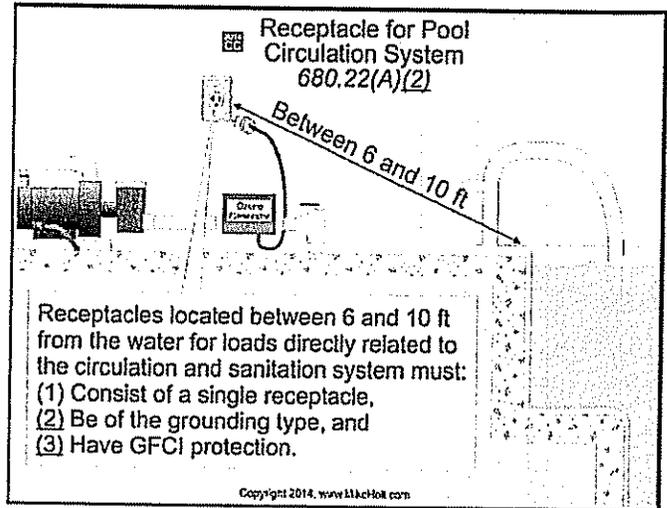

Figure 680-23
**(2) Circulation System.** Receptacles for permanently installed pool, outdoor spa, and outdoor hot tub motors, or other loads directly related to the circulation system must be located not less than 10 ft from the inside walls of a permanently installed pool, outdoor spa, or outdoor hot tub, or not less than 6 ft from the inside walls of a permanently installed pool, outdoor spa, or outdoor hot tub if they meet all of the following conditions: Figure 680-23